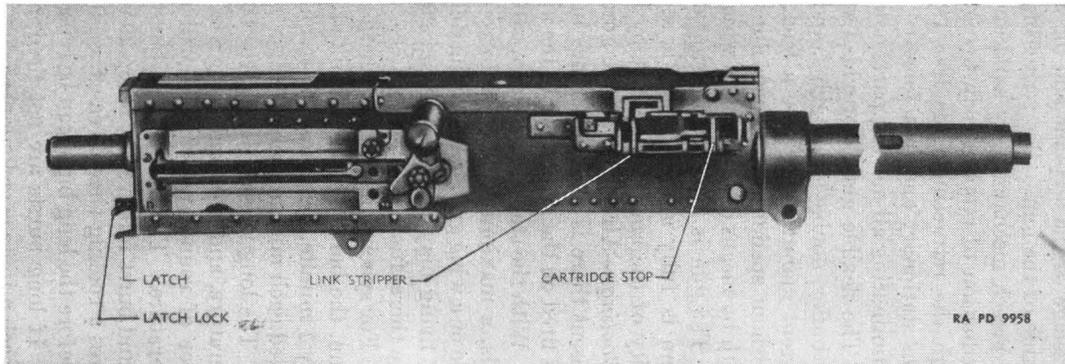

FIGURE 4.—Browning machine gun, caliber .50, M2, aircraft, flexible—right side view.
(2) *Flexible gun.*—The flexible gun (figs. 4 and 5) is installed in the fuselage of the airplane and has a retracting slide located on the right side of the gun. The retracting slide is provided for retraction of the breech mechanism by hand and for use in loading, unloading, and reduction of stoppages in firing. It is connected with the bolt through the retracting slide lever stud. The retracting slide grip remains stationary and in a forward position while the gun is firing, thus eliminating all moving parts outside of the receiver.